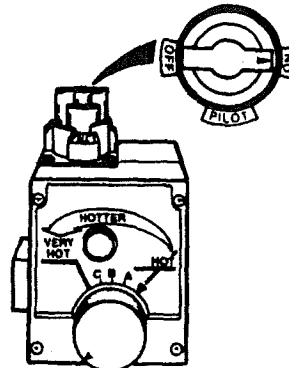

Figure 8
11. At arms length away, turn gas control knob counter-clockwise (↺) to the full "ON" position. **WARNING Do not use gas control knob to regulate gas flow.** (Figure 8, page 15)